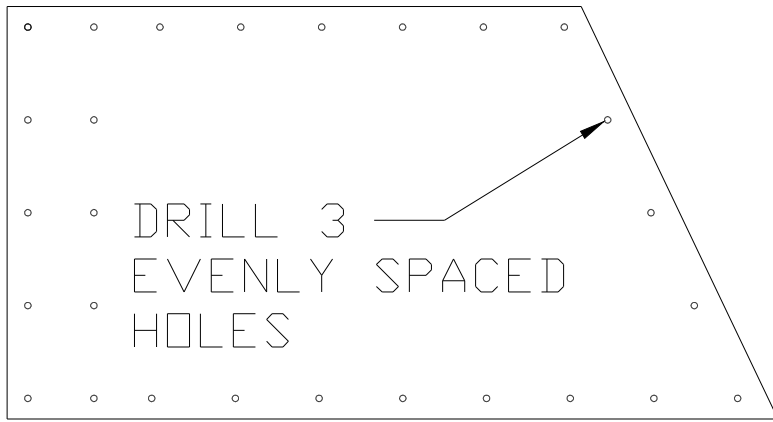

Figure 4.3.5
- 8) Remove the two skins and layout and drill a #40 rivet line along the leading edge. Figure 4.3.5.